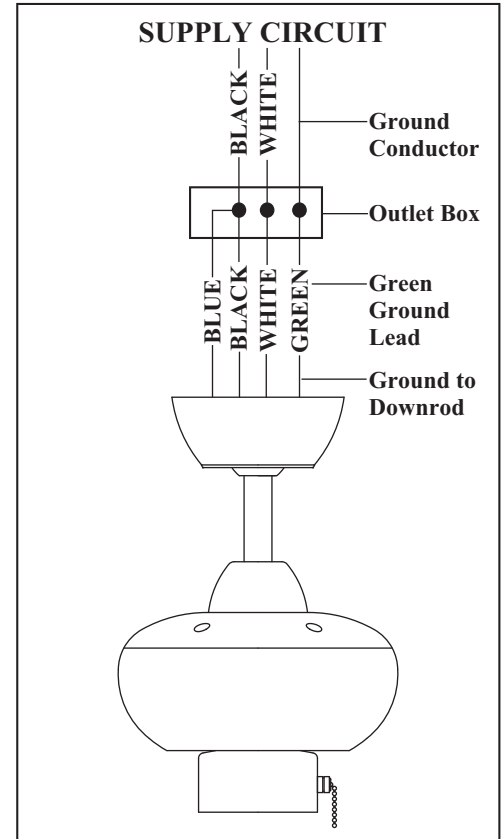

Figure 9
1. Connect the fan supply (black) wire and light supply (blue) wire to the black household supply wire as shown in Fig. 9.